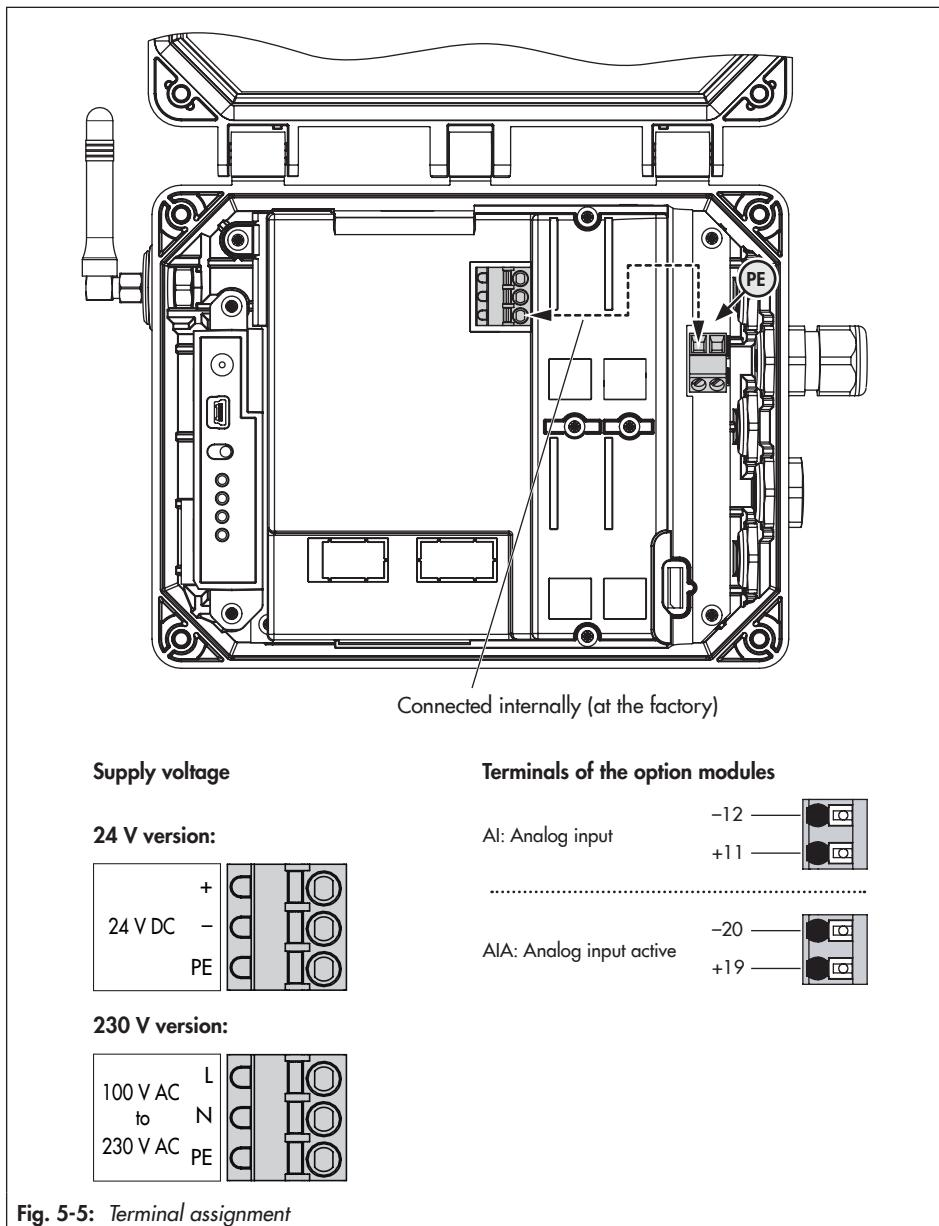

Fig. 5-5: Terminal assignment
- Connect the wiring as shown in Fig. 5-5.
- Route the grounding connection (PE) to the corresponding terminal.